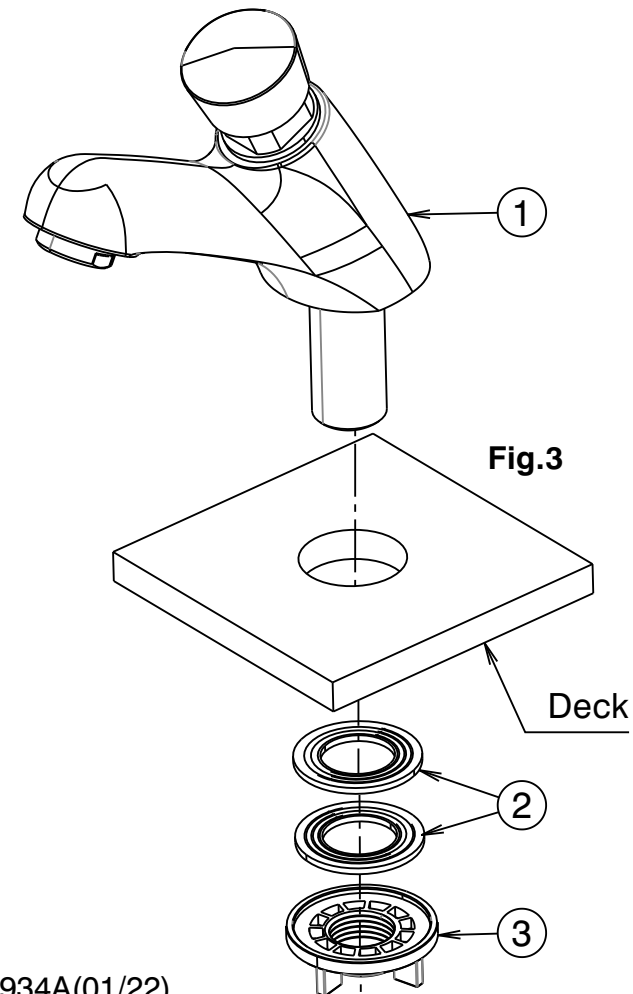

Fig.3
- 2) Place threaded tail of tap body into deck hole, slide washers (2) and tighten nut (3) on threaded tail until outlet is clamped firmly to the deck (Fig.3).